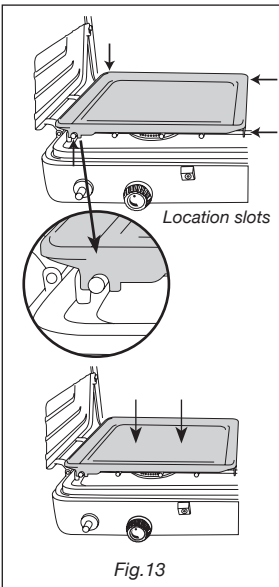

Fig. 13
9. When using the solid plates, make sure that they are securely clipped onto the wire rack, by locating the slots shown in the image. Once in place, push down firmly to make sure the plates are secure. (Fig. 13)